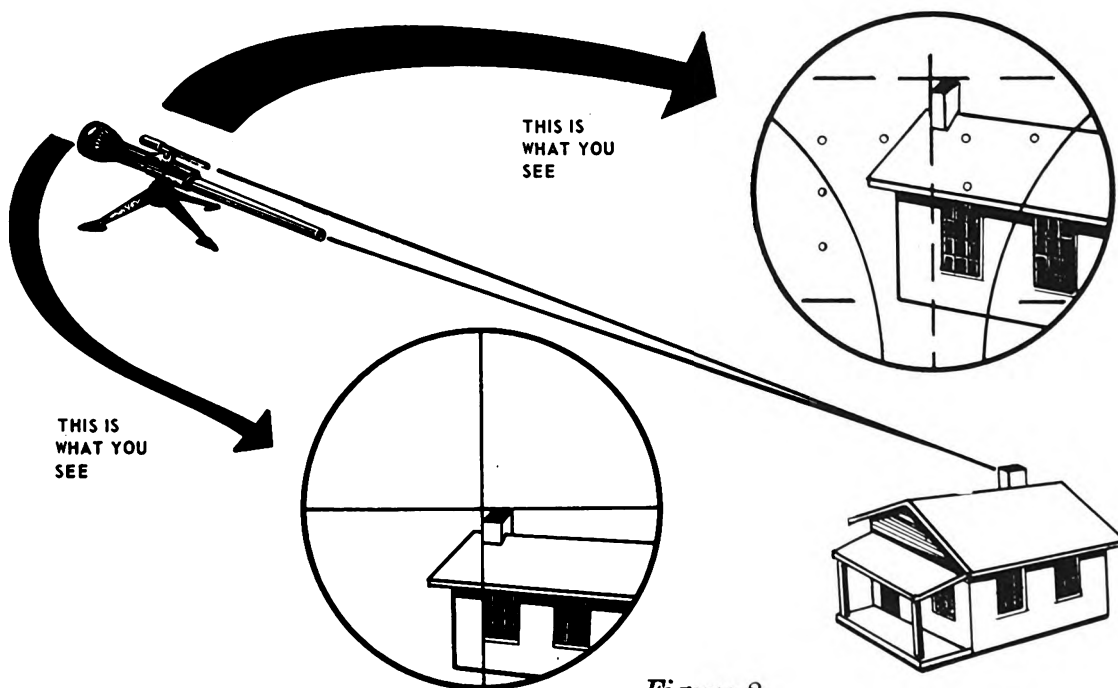

Figure 2.
c. Select an aiming point at a distance between 1000 and 1200 meters (preferably 1100 meters). The target selected should have clearly defined horizontal and vertical lines, so that a definite point can be established. Sight through the boresight disc or the cartridge case primer hole and aline the muzzle crosshair on the aiming point by elevating and traversing the rifle (figure 2).